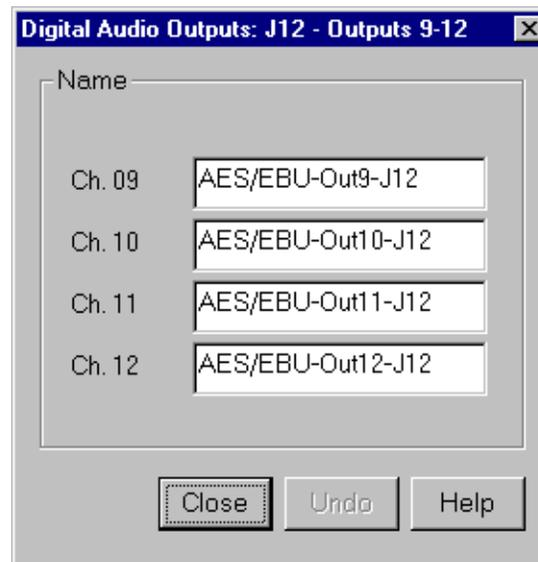

Figure 46. Digital Audio Output dialog box
1. Expand Audio Output, and then click one of the Digital Channels to bring up the Digital Audio Output dialog box (Figure 46). The channel numbers on the left refer to the physical output connectors on the audio output box. **Ch. 01** and **Ch. 02** refer to the channel pair on the first connector, and **Ch. 03** and **Ch. 04** refer to the pair on the second connector, and so forth.